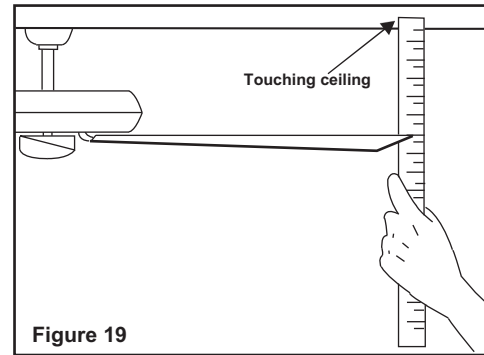

Figure 19
2. Most fan wobbling problems are caused when blade levels are unequal. Check this level by selecting a point on the ceiling above the tip of one of the blades. Measure this distance. (Fig. 19) Rotate the fan until the next blade is positioned for measurement. Repeat for each blade. The distance deviation should be equal within 1/8".